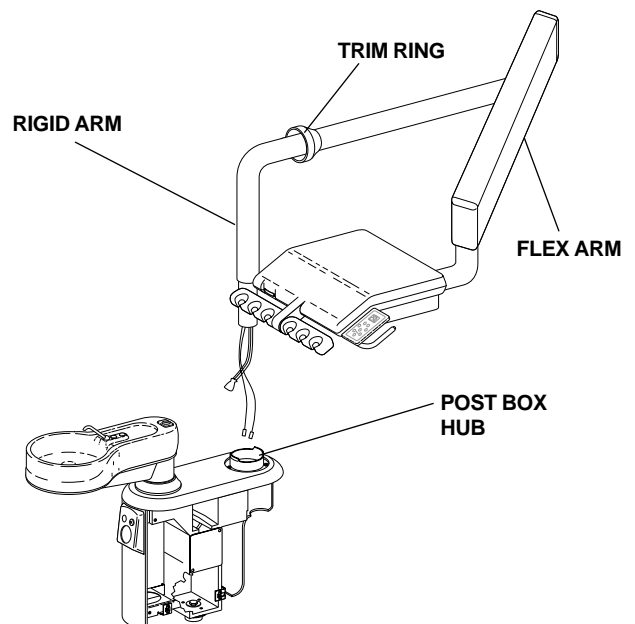

**FIGURE 14**
- If the rigid arm and the flex arm have been disassembled for packaging, rotate the rigid arm until the short elbow of the rigid arm is aligned with the flex arm knuckle (see *Figure 14*). Push the rigid arm onto the flex arm knuckle and tighten the setscrews (see *Figure 14*).